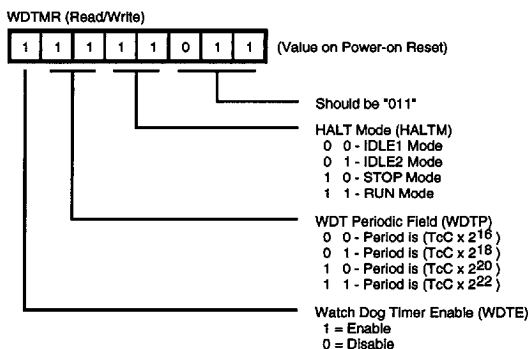

Figure 21. Watch-Dog Timer Master Register
**Watch-Dog Timer Master Register (WDTMR; I/O address F0h).** This register controls the activities of the Watch-Dog Timer and selects power-down mode of operation (Figure 21).